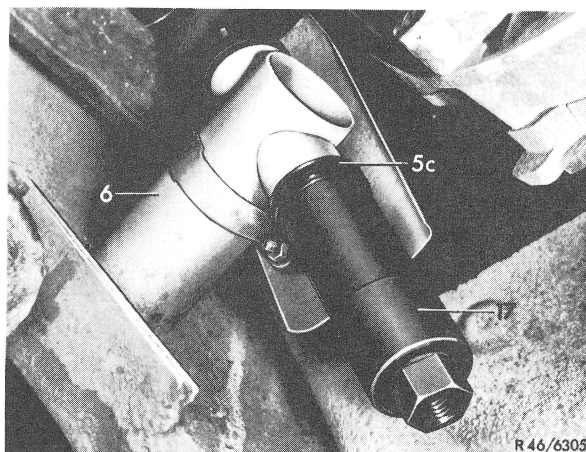

Fig. 4
7 Remove both rubber bushings (5c) from trunnion bearing by means of removing tool (17) (Fig. 4).